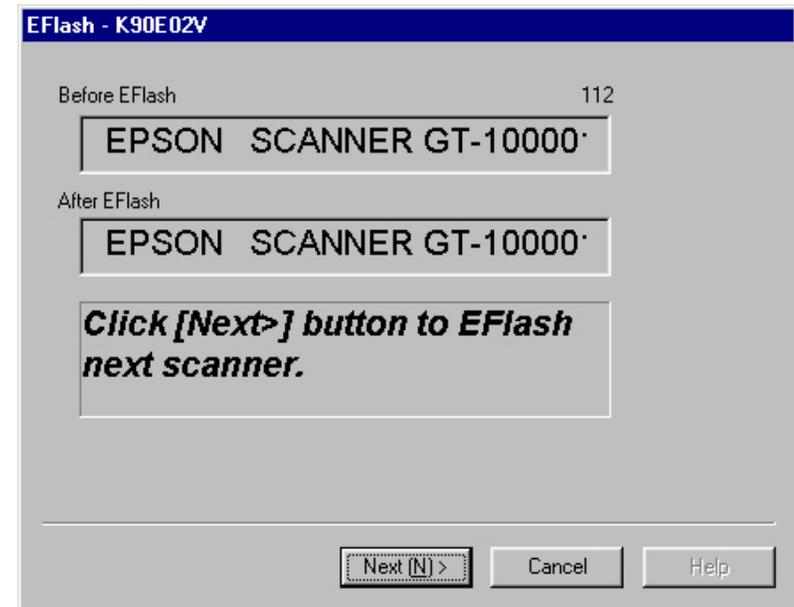

Figure 5-10.
7). Make sure that the scanner is ready, and click “Next”. Figure 5-10 will appear and the scanner version information “Before EFlash” and “After EFlash” will be displayed. Compare the version before and after EFlash to confirm that the firmware has been properly written.